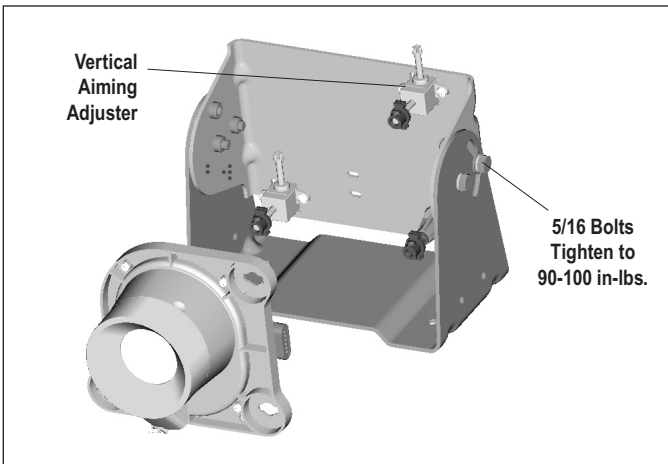

FIGURE 39 - VERTICAL AIMING ADJUSTER
1. Using Figures 39 - 42 and a T15 Torx wrench, adjust the angle of the IR camera as needed.